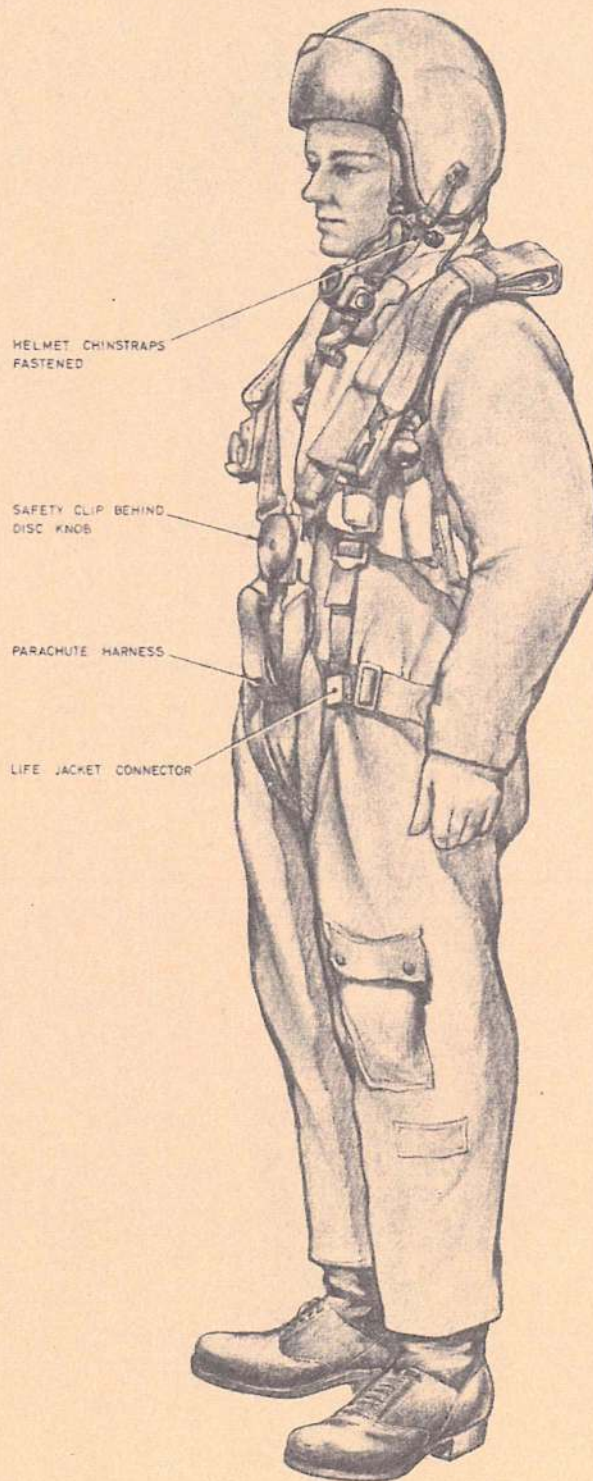
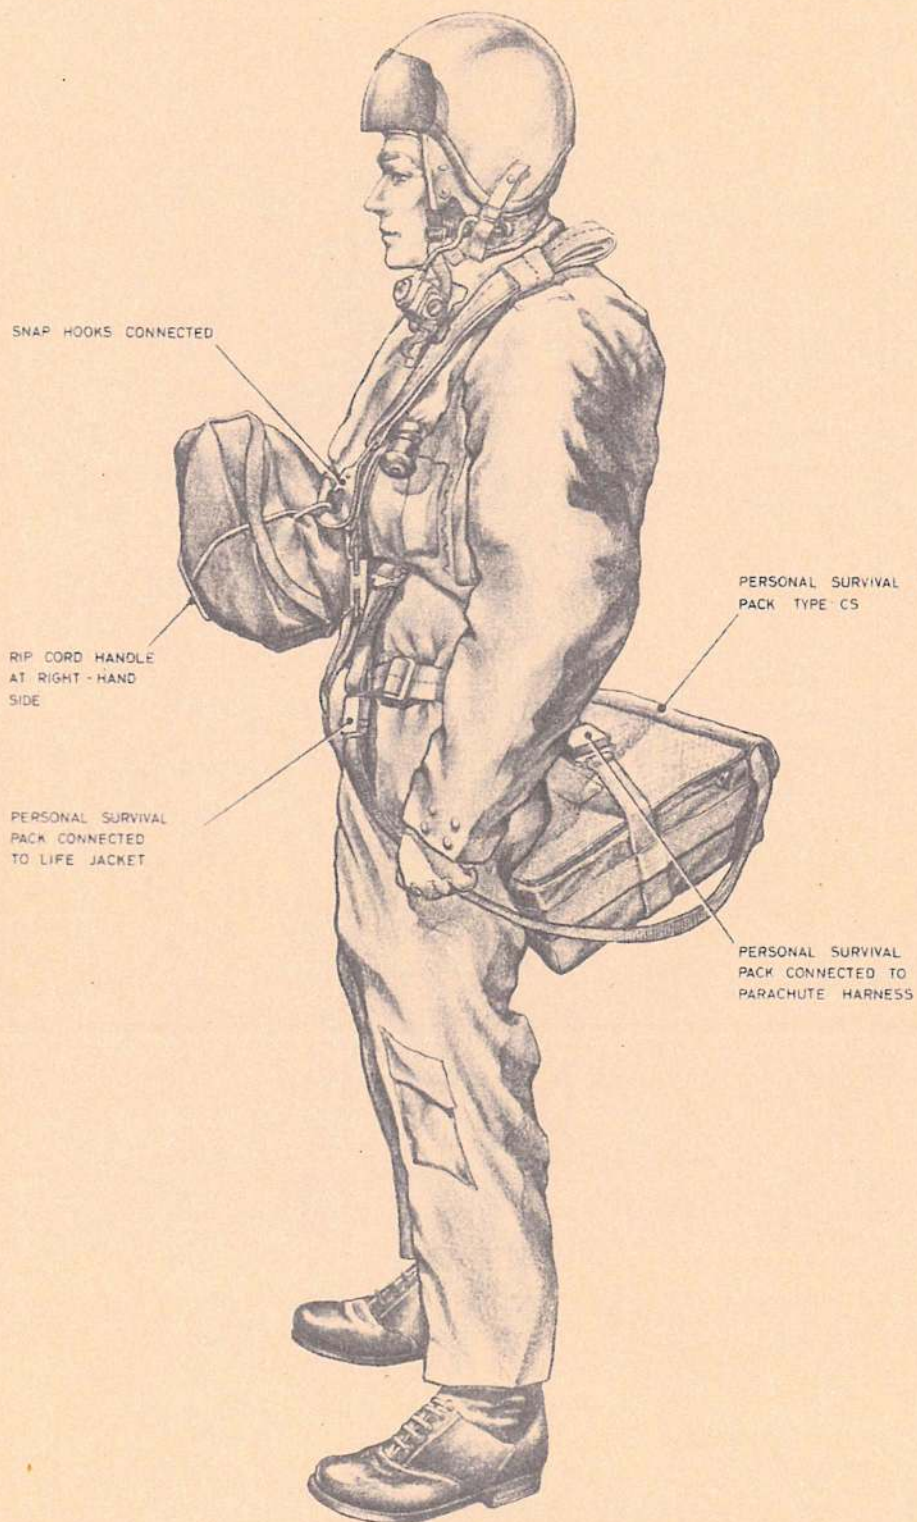

Fig. 1. Fitting the equipment: stage 1
Fig. 2. Fitting the equipment: stage 2
(1) Type ZC harnesses are provided at the following stations in M.R. Mk. 2 and T Mk. 4 aircraft.
(2) Type ZC harnesses are provided at the following stations in Mk. 3 aircraft.
4. The parachute assembly is fitted in two stages. Stage 1 deals with the parachute harness (fig. 1) which is worn at all times and stage 2 (fig. 2) deals with the fitting of the parachute and personal survival packs.